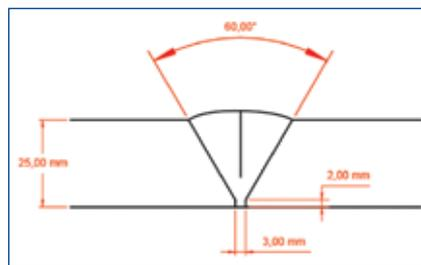

Figure 1: A butt weld to be inspected using the ultrasonic testing (UT) method.
As an example, let’s assume the butt weld configuration shown in the Figure 1 weld should be inspected using the ultrasonic testing (UT) method.